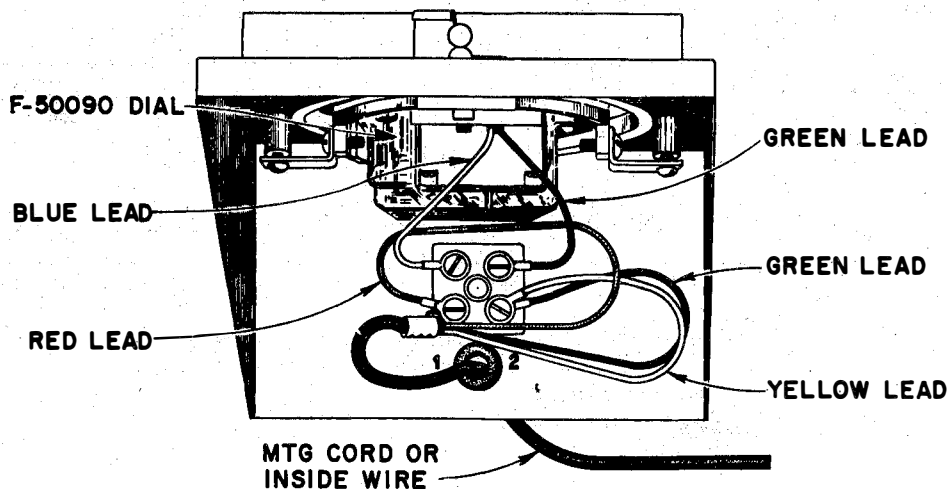
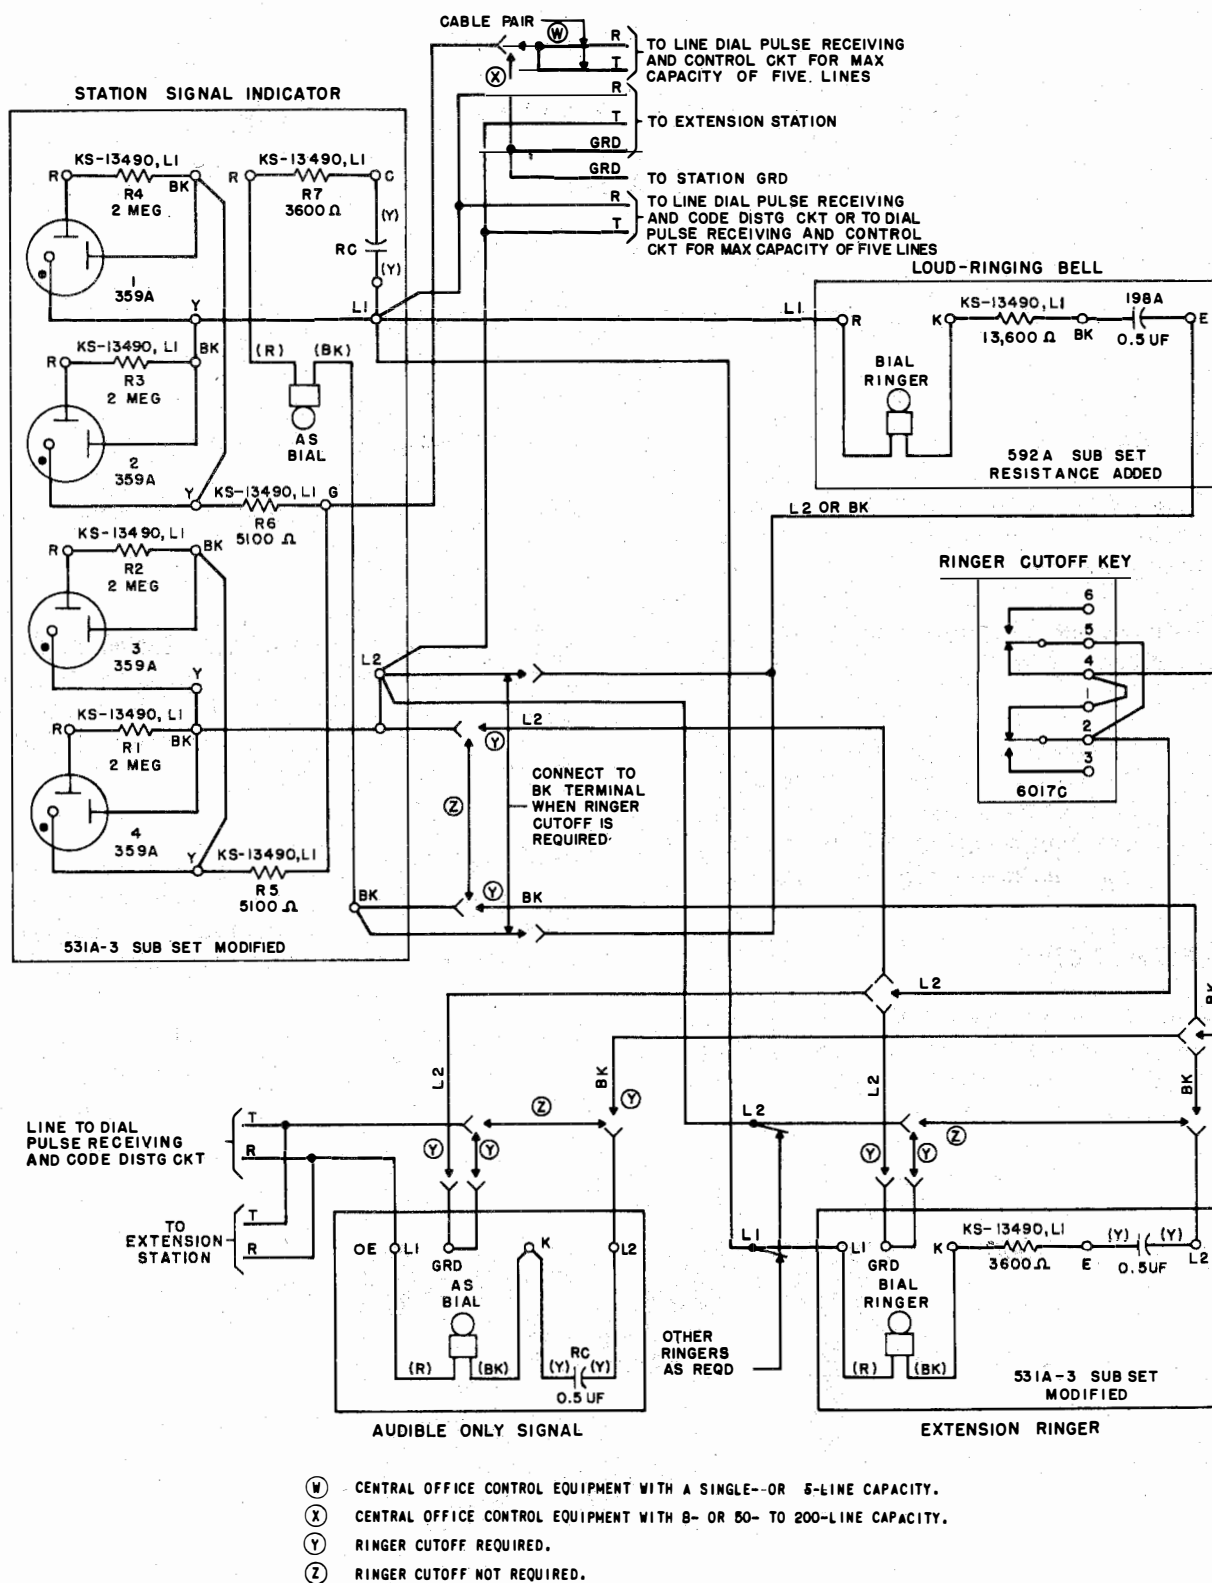

Fig. 1 — Terminating Mounting Cord
Fig. 2 — Civil Air Defense Warning System, Connections
1.02 This section is reissued to delete the D3AY cord from Fig. 1 and to correct Fig. 2.
2.01 Fig. 1 shows the method of terminating any 3-conductor mounting cord in the F-50090 dial. Inside wire replaces the cord on wall mountings.
3.01 Connections for audible and visual signals are shown in Fig. 2.